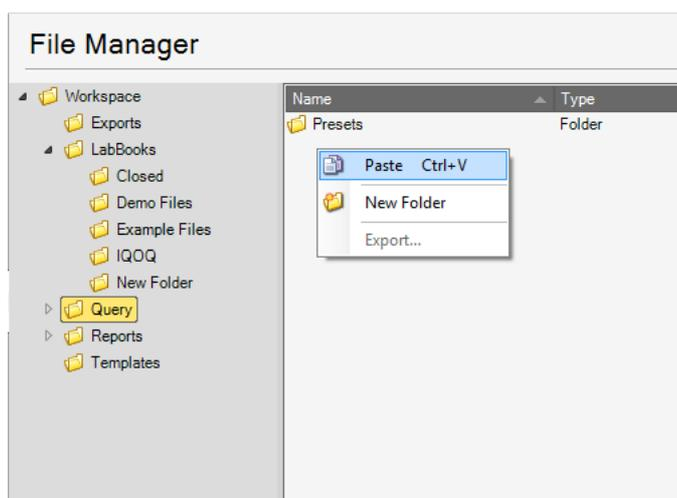

Figure 4-62. Shortcut menu of file for paste
5. Right-click in the new folder, see Figure 4-62.